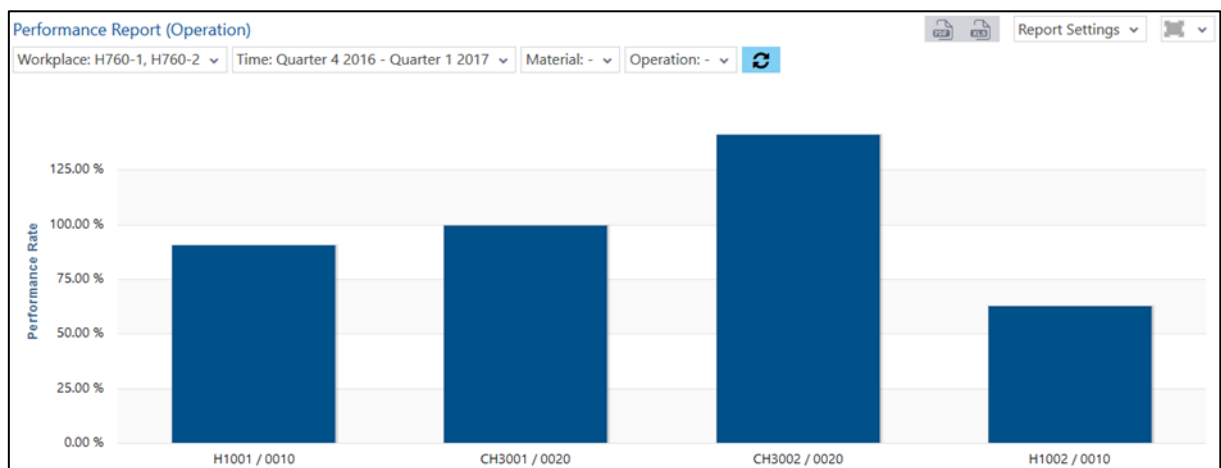

Fig. 98: Performance report (operation) as column chart
- Performance report (operation) as a column chart (fig. 98):